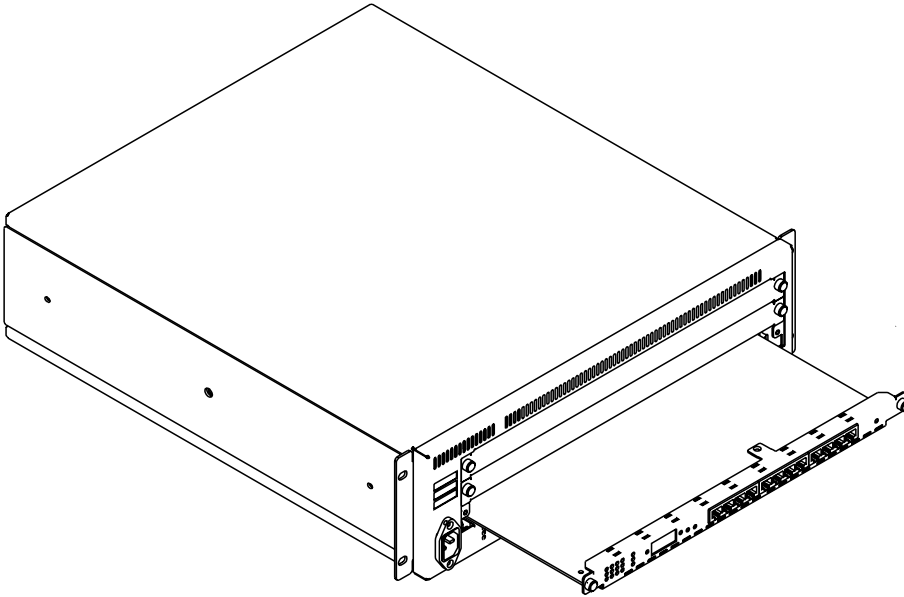

Figure 6. Installing the Module in an 8285 Expansion Unit
4. Insert the A12-TP25 module into one of the free slots in the expansion unit as shown in Figure 6 on page 12, matching the left and right board guides as you slide the module cleanly into place (by pressing evenly on the top and bottom of the faceplate).